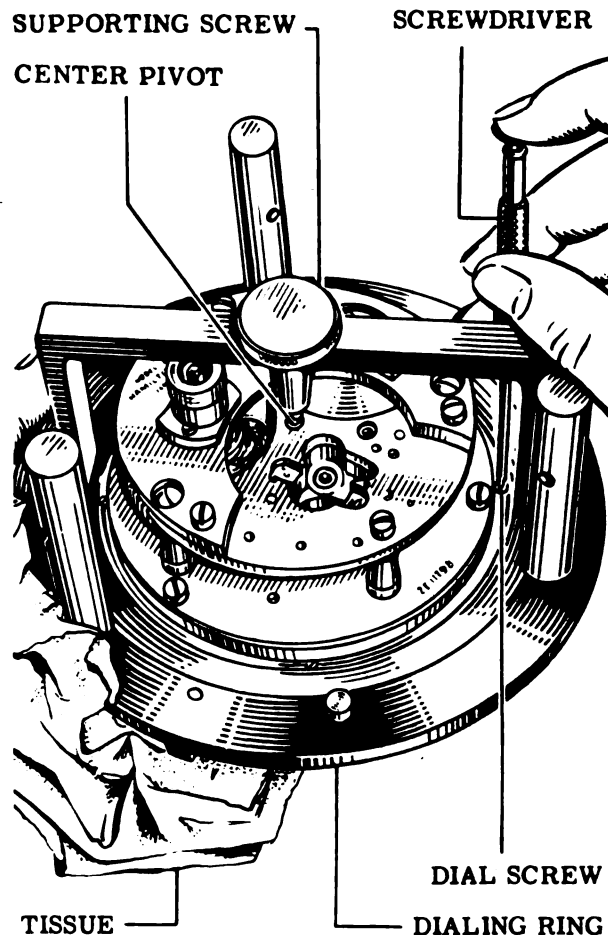

Figure 83
57. Take movement from work ring. Turn over and place in dialing ring, Tool No. 7. Turn the movement over. Be sure the center pinion supporting screw on the dialing ring fits down onto the center pivot. See position in Fig. 83.
61. Turn the movement over, holding the dial in position with the hand protected by tissue. Insert and fasten four dial screws, using Tool No. 91, as shown in Fig. 83.